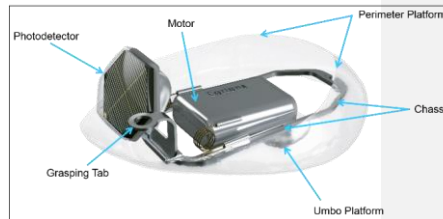

Figure 2: Lens
The Lens (Figure 2) is designed to receive light signals from the Light Tip and convert the light signals into mechanical vibrations of the tympanic membrane (TM). The Lens is customized for you and is placed in to position by a trained physician. It is placed at the end of the ear canal on the skin around the TM.